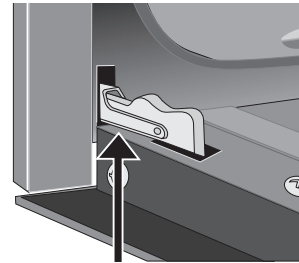
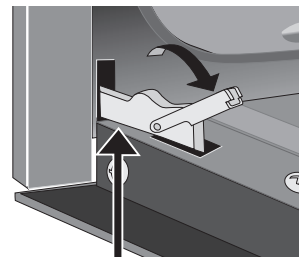

Figure 41: Door hinge locks
Figure 42: Hinge in unlocked position
2. Pull the door hinge locks on both left and right door hinges up from the oven frame completely towards the oven door (See Figure 41). A tool such as a small flat-blade screwdriver may be required to unlock the hinge (Figure 42).
4. Push the door hinge locks up towards and into the oven frame on both left and right oven door hinges to the locked position (See Figure 41).